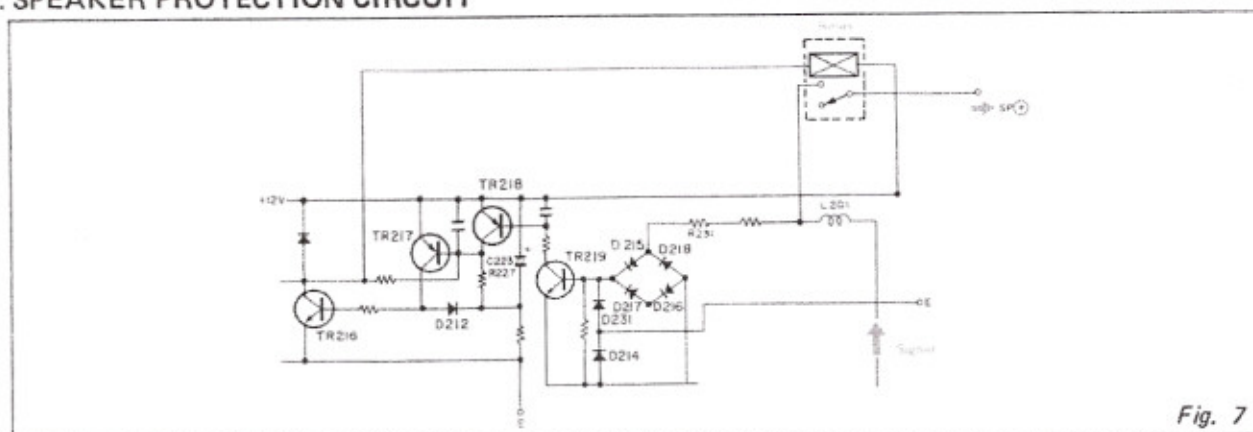

Fig. 7
- In the B-2, the relays operate approximately 3 seconds from the instant the power supply switch is turned on and the circuit will be in ON condition. As current (approximately 100ma) will not flow through the relays while the potential (0.6V) between the emitter and base of TR217 is varying, that is, while C223 is being charged, the relays will not be in ON condition and no sound will be emitted. Since TR217 will not turn ON at the instant that the power supply switch is entered (potential between base and emitter insufficient), the relays will not be in ON condition. However, when C223 is sufficiently charged to operate TR217, TR216 will operate in ON direction, current will commence to flow in the relays and the circuit will be in ON condition. (Figure 7)